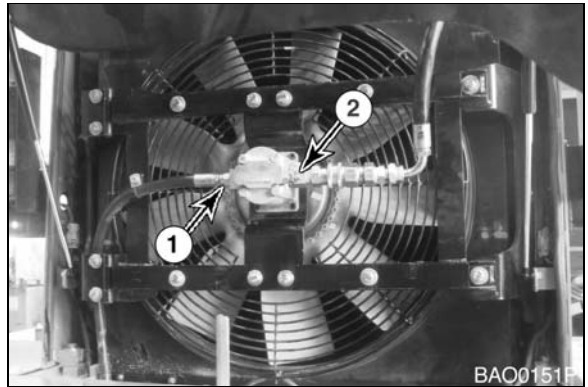

Figure 113
1. Attach gauge to inlet port of fan motor (1, Figure 113).
2. Adjust screw on relief valve cartridge (2, Figure 113).